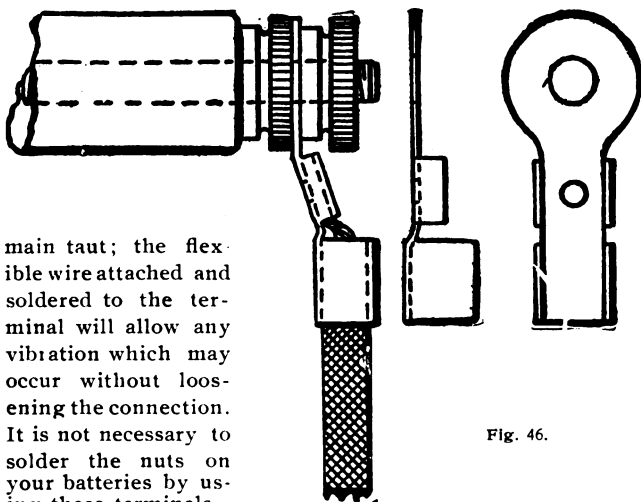

Fig. 46.
**USE ONLY** good connections and ones which will not work loose. Figure 46 illustrates a